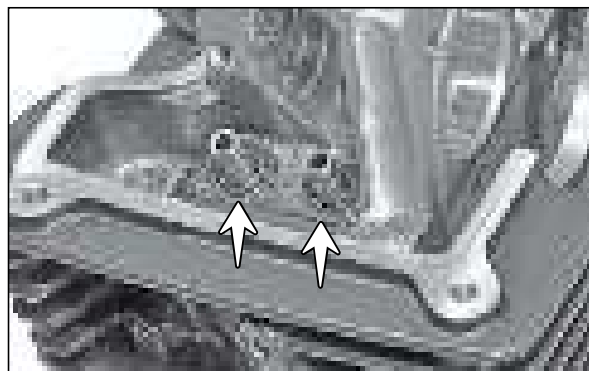

Fig. 3.58
- Remove seat valve spring. (Fig. 3.58)